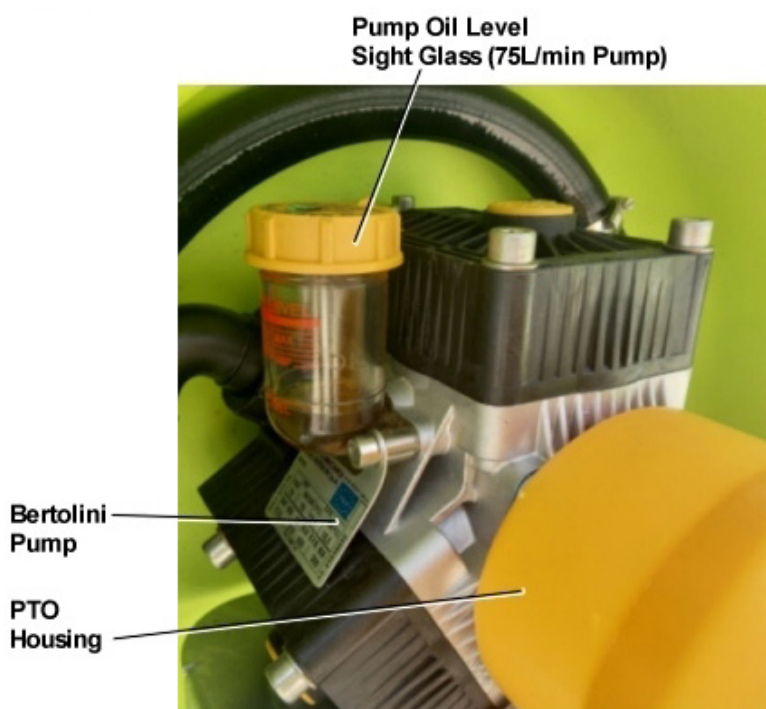

Figure 8 – Bertolini Pump – Checking the Oil Level
4. Refer to the pump manual (downloaded via link on supplied data sheet), drain and replace the pump oil in accordance with the manufacturer's recommendations (refer to Figure 8).